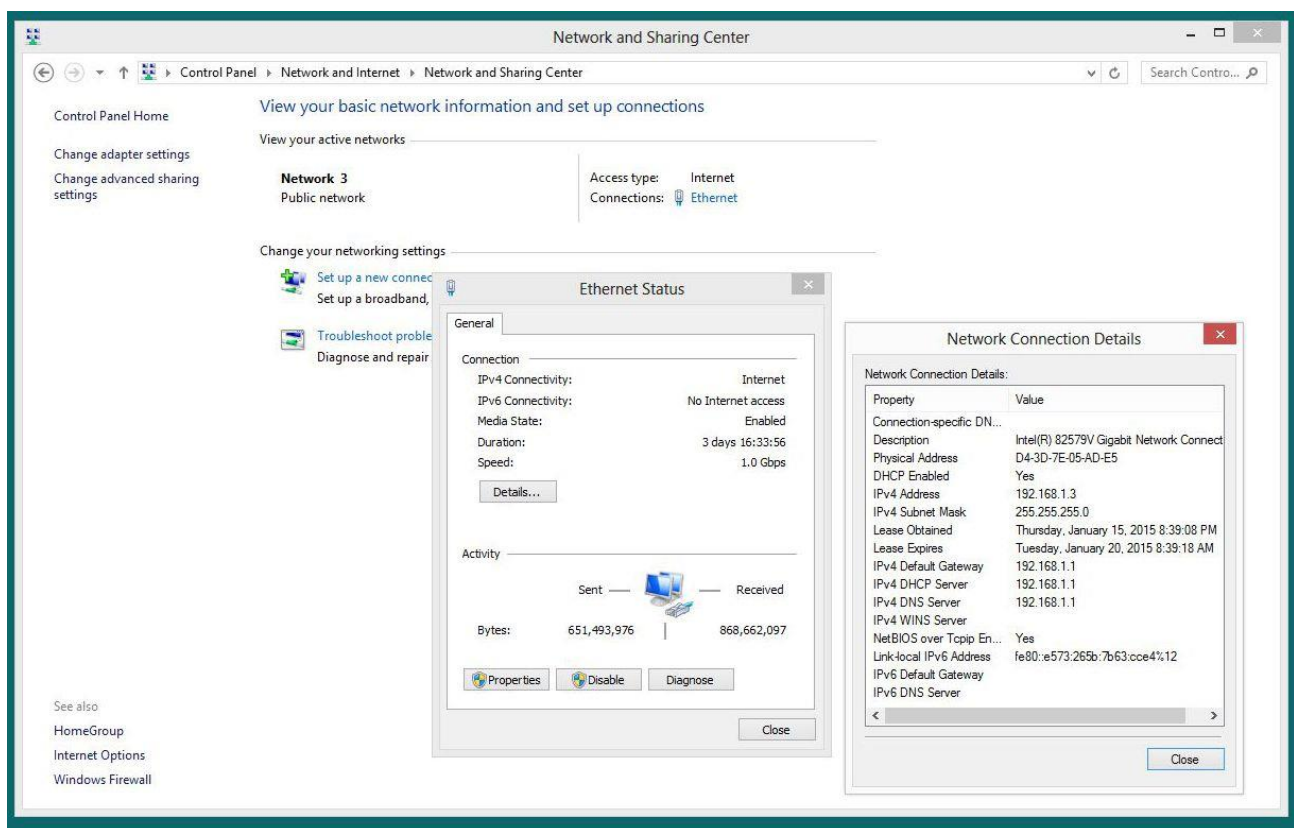

FIGURE 4.36 – PC/LAPTOP LAN INFORMATION
- 2) You will see the Ethernet IP and subnet mask. Our IP address is 192.168.1.3. Our subnet mask is 255.255.255.0 and Default Gateway is 192.168.1.1. Your information will be different. (SEE FIGURE 4.36).